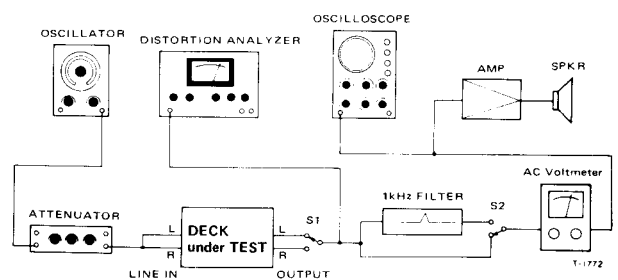

Fig. 5-1 Basic test setup
16. Erase efficiency	<ul style="list-style-type: none"> <li>• Connection is same as in Fig. 5-1, but engage 1-kHz filter.</li> <li>• Record a 1-kHz signal. Rewind tape to midpoint of recorded portion. Record a "no signal" portion. Find the difference between the 1-kHz portion and the "no-signal" portion.</li> </ul>
17. REC MUTE function	<ul style="list-style-type: none"> <li>• Connection: Fig. 5-1, but engage 1-kHz filter.</li> <li>• Record a 1-kHz signal. Push REC MUTE button for several seconds. (At this time, make sure LED on the button lights). Rewind and play the tape. Find the difference between the 1-kHz portion and the "no-signal" portion.</li> </ul>
18. Channel separation	<ul style="list-style-type: none"> <li>• Connection Fig. 5-1, but do not connect LINE IN (R), and engage 1-kHz filter.</li> <li>• Set the deck to record mode. Find the difference between the 1-kHz recorded portion (L-ch) and the "no signal" portion (R-ch).</li> </ul>
19. Adjacent track crosstalk	<ul style="list-style-type: none"> <li>• Connection: Fig. 5-1, but do not connect LINE IN (L) and OUTPUT (L).</li> <li>• Record a 125-Hz signal on R-ch and note output level. Invert tape and play R-ch track. Check leakage level against the output reference of previously recorded portion.</li> </ul>